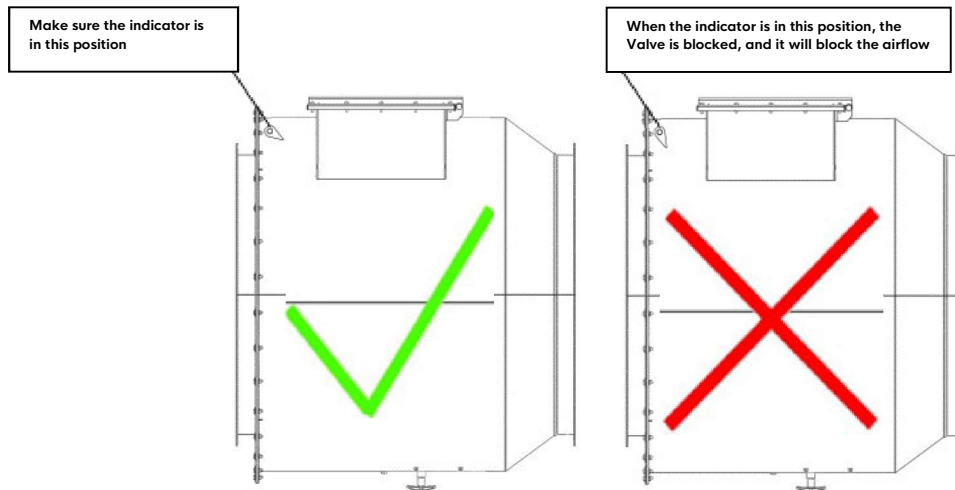

Figure 11 : Indicator position
Step 2: Make sure that the indicator is in the correct position (Figure 11), otherwise unblock before use.